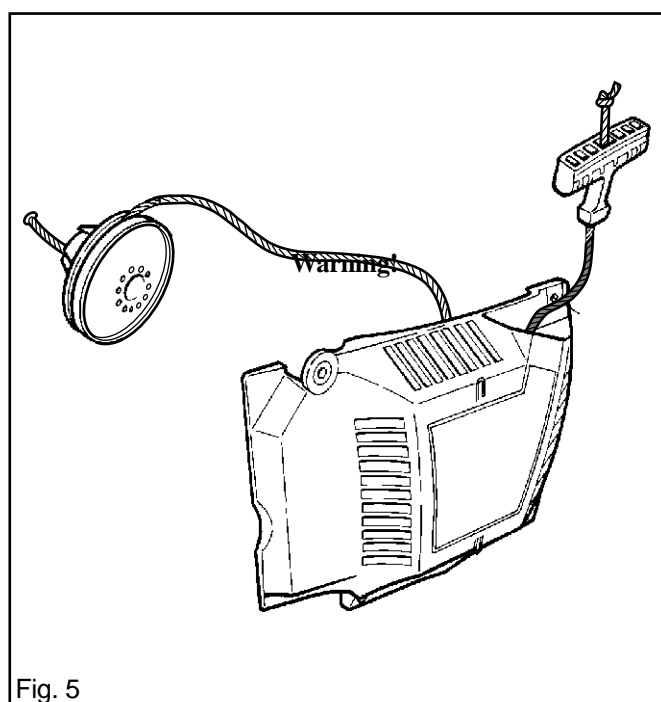

Fig. 5
3. If a replacement cord is to be fitted, push the free end through the hole in the cord pulley. Take hold of the end with pointed pliers inside the pulley and pull the cord through. See fig. 5.
6. Pull the cord out through the hole in the housing and attach the handle with a double knot. See fig. 5.